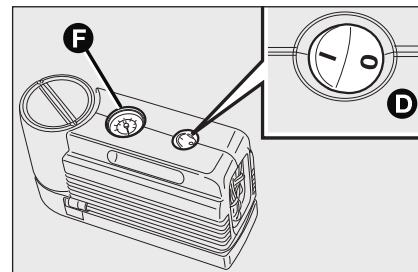
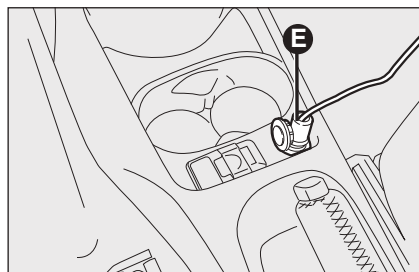

fig. 14
fig. 15
- make sure that switch **D-fig. 14** of the compressor is in position 0 (off), start the engine, plug into the socket **E-fig. 15** and operate the compressor turning switch **D-fig. 14** to position I (on). Inflate the tyre to the pressure specified in the "Cold inflation pressure" paragraph, "Technical Specifications" chapter.
For a more accurate reading, check pressure gauge **F-fig. 14** with the compressor off;